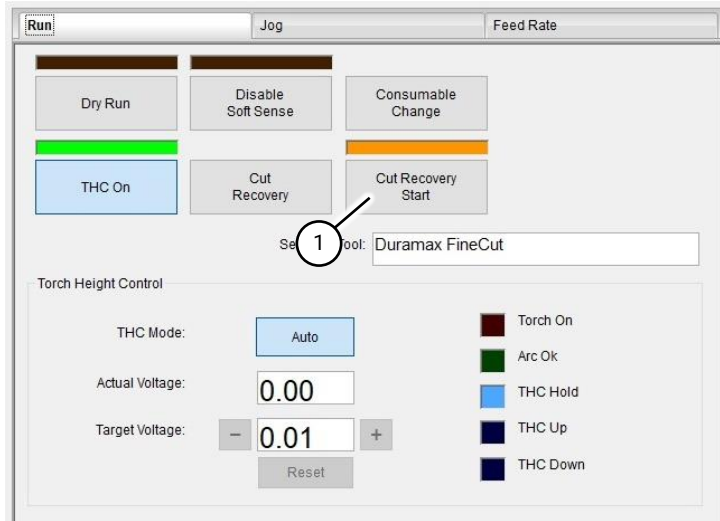

Fig 83 Cut Recovery activated
1.1 The 'Cut Recovery Start' button will become enabled (indicator will flash amber) (Fig 83 (1)).